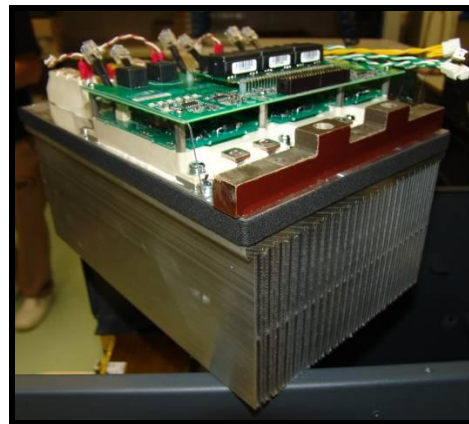

Figure 7.4.14. Disassembly the IGBT.
- 3) Remove the screws (**M6x12** DIN-7895H), which fix the capacitors and the bus bar to the IGBT (see figure 7.4.14 a).
Figure 7.4.14 a.
- 3) Put the IGBT matching the fixing holes (see figure 7.4.14).